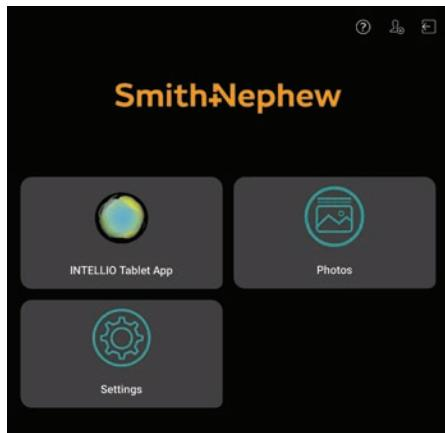

Figure 7. INTELLIO Tablet Home
8. The INTELLIO Tablet HOME displays, (Figure 7).
1. From the Home software, (Figure 7), tap on the Create User icon located in the top right corner.